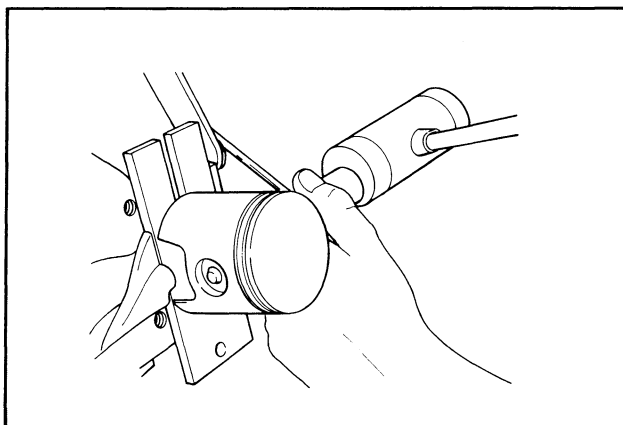

Figure 55 – Piston Pin Removal
- i. See Figure 55. Remove both piston pin retaining rings using pliers. Heat the piston pin bosses and remove the pin by drifting it out using the **PISTON PIN TOOL**, Part No. 96777-72.